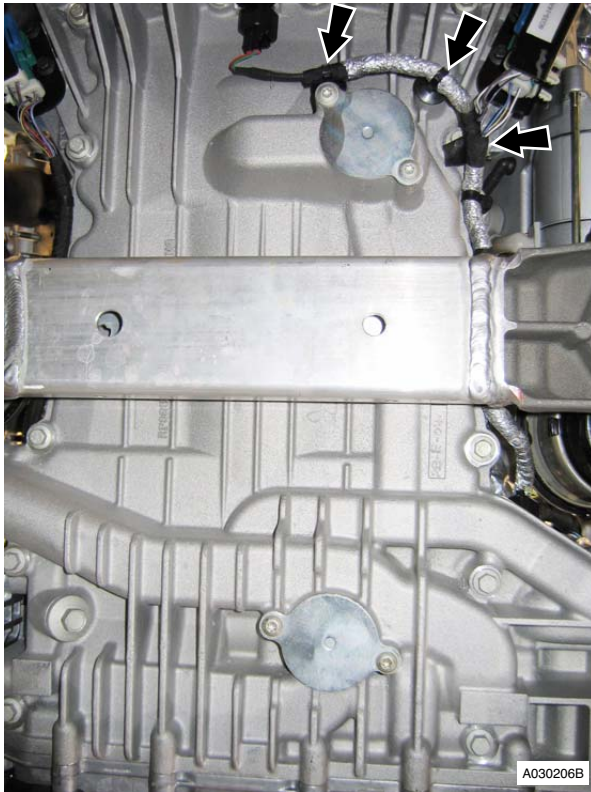

Figure 9
16. Release harness clips (x6) from sump (see Figure 9).